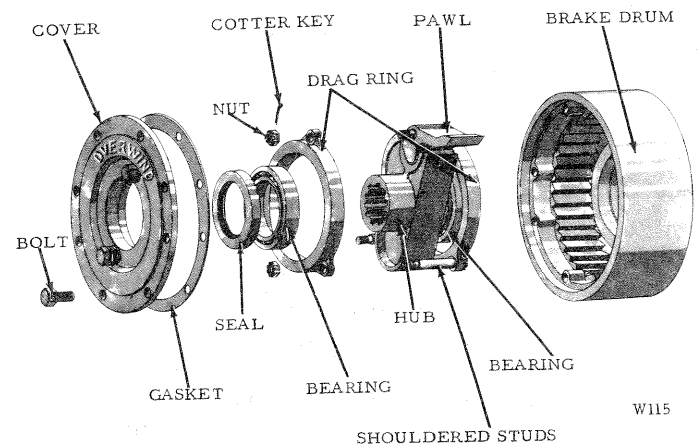

Figure 24
C. Disassembly. Fig. 24
E. Assembly. Fig. 24